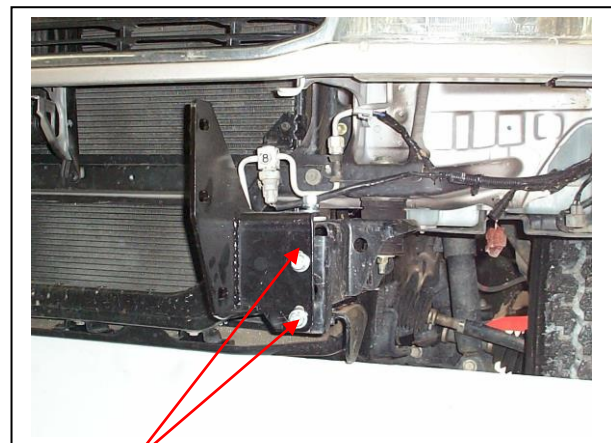

Figure 8
12. Attach ECB steel mounting brackets (supplied) to vehicle. **NOTE:** Tilt steel mounting brackets slightly in towards centre and feed onto chassis. Use M10 x 30 high tensile bolts (supplied) for front holes. **FINGER TIGHTEN ONLY.** Do not fit lower tow hook bolts. **See figures 8 and 9.**